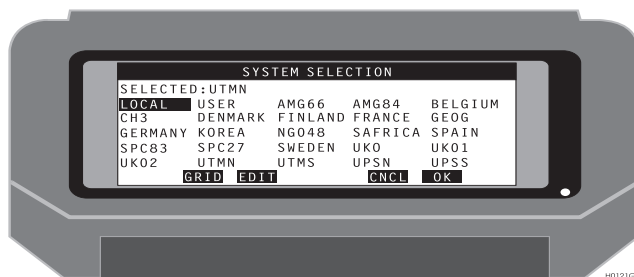

Figure 2.39. System Selection (SYST) Screen
- To start Anchor Point, set FORMAT to GRID in the DSST screen, press SYST and then highlight LOCAL (Figure 2.39).